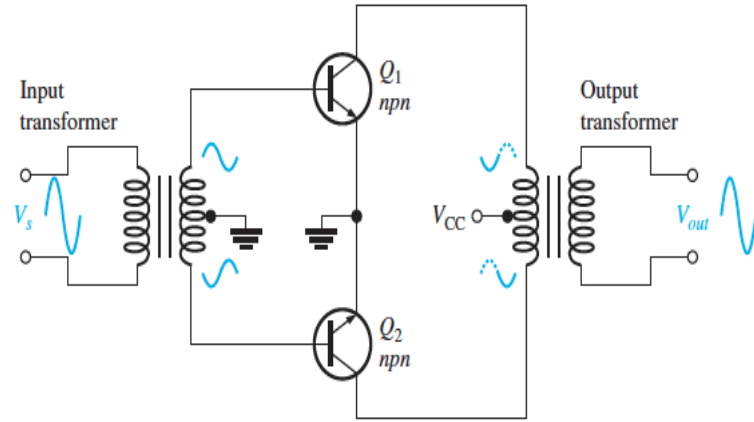

Figure 12
- Transformer Coupling is illustrated in Figure.12 The input transformer has a center-tapped secondary that is connected to ground, producing phase inversion of one side with respect to the other.